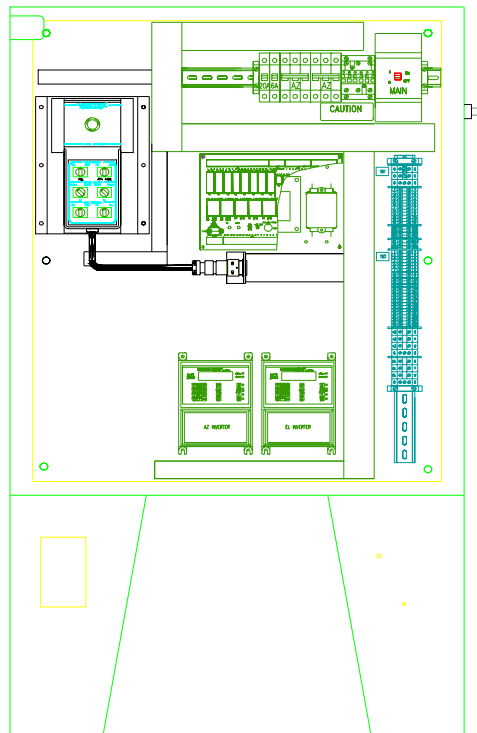

Figure 4-3 Drive Cabinet Assembly
4. Connect the three-phase line leads to the line side (top) of the main circuit breaker in the upper right corner of the drive cabinet. Refer to Figure 4-3 for a drawing of the drive cabinet.